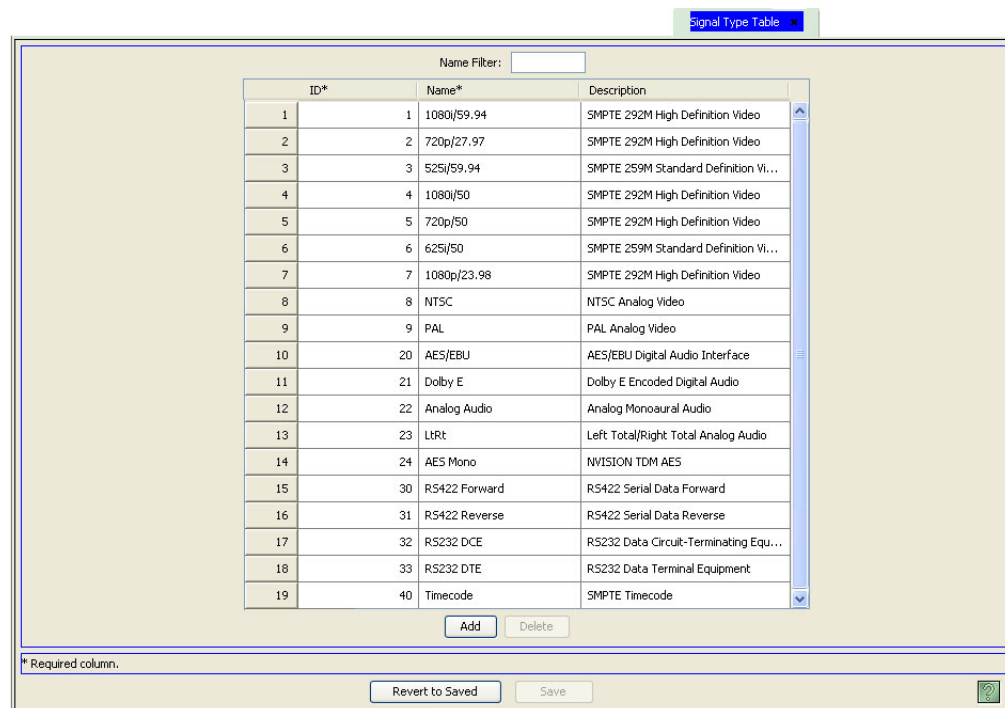

Figure 8-34. Signal Types Table
- 2 From the Navigation area, select the 'Views' pane and then 'Signal Types'. The 'Signal Types' table appears, as shown in Figure 8-34.